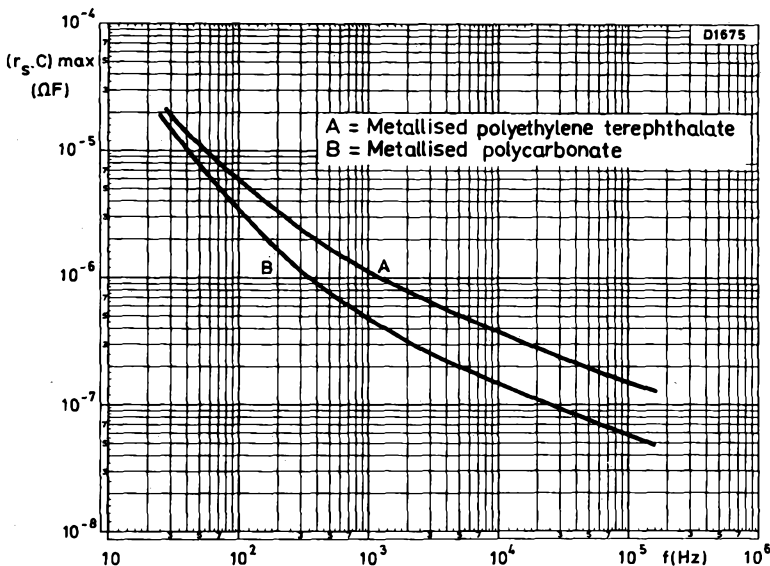

Fig. 2
The term $(r_s \cdot C)$ has been plotted against frequency in Fig.2 (see page 3). The application of equation (2), and the value of $(r_s \cdot C)$ at a particular frequency, will give the maximum power dissipation of the capacitor.
From Fig. 2 the $(r_s \cdot C)$ product is $5 \times 10^{-7} \Omega\text{F}$, therefore the power dissipated is